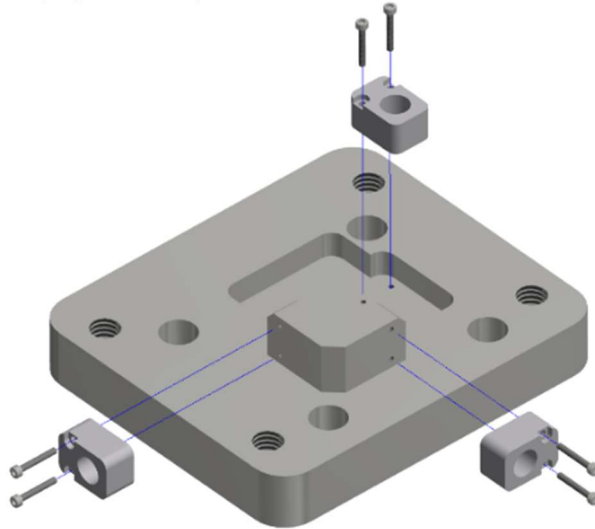

Figure 8-22. Remove three Angular Rate Sensors (SA572-S58) from the Upper Torso to Pelvis Adaptor Plate (474-4004)
8.2.19 Remove three Angular Rate Sensors (SA572-S58) from the Upper Torso to Pelvis Adaptor Plate (474-4004) by removing two M1.4 X 0.3 X 10 LG. SHCS per ARS (Figure 8-22).